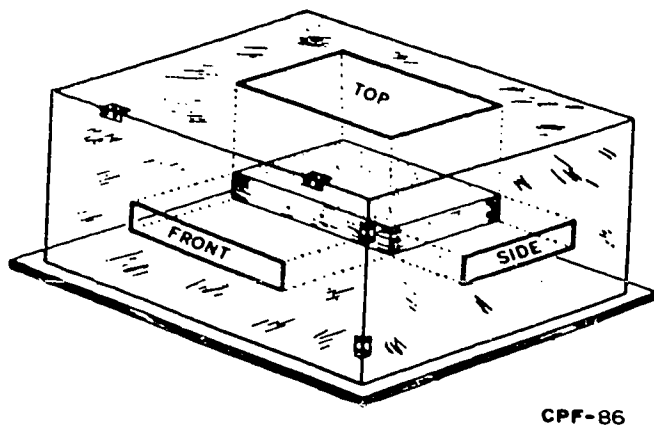
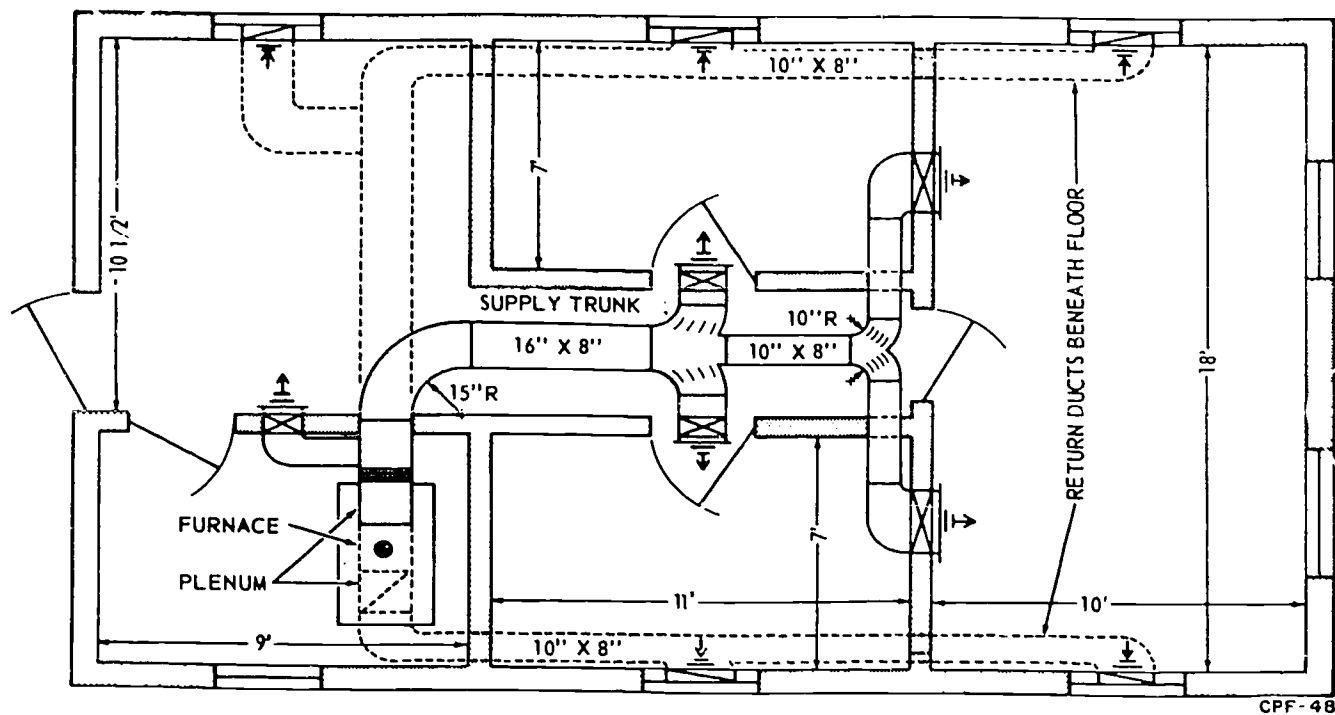
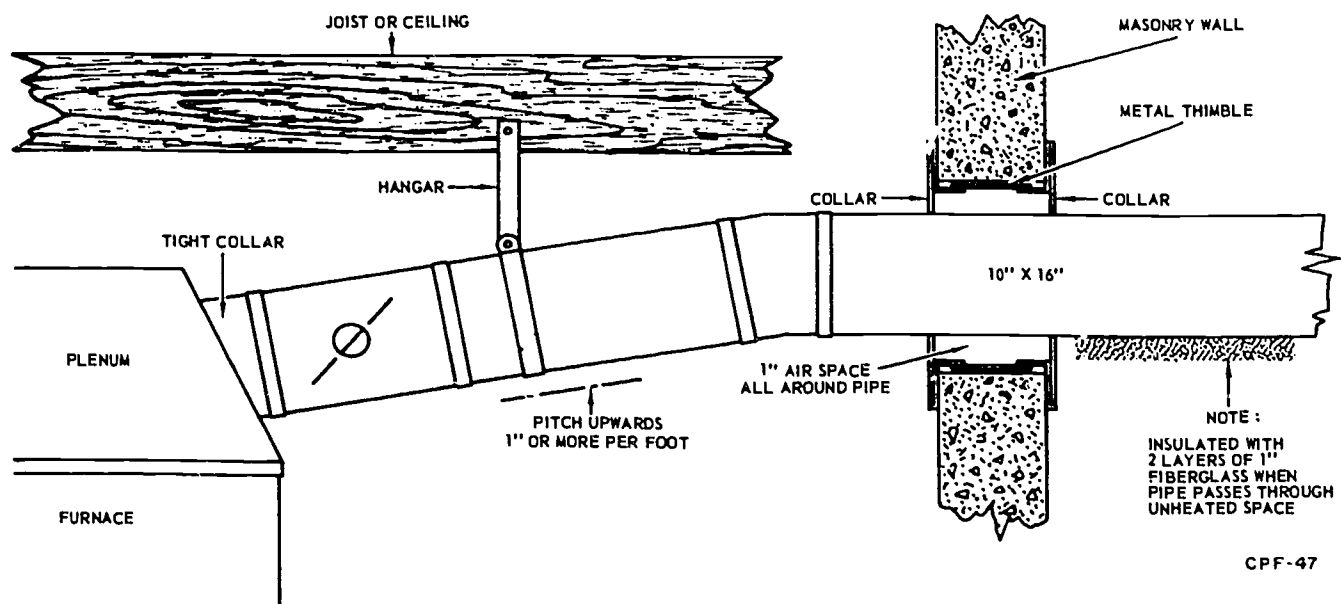

Figure 1-1. Pictorial and orthographic projection drawing.
Figure 1-3. Plan view of a duct installation.
Figure 1-4. Elevation view.
**Pictorial and Orthographic Projection Drawings.** In figure 1-1, you can see the relations of pictorial and orthographic projection drawings. A pictorial drawing is so called because it is similar to a picture.
In orthographic projection drawings, such as that illustrated in figure 1-1, three views of the object are shown. This is done to show you the three main dimensions—length, width, and thickness. The orthographic projection showing the top is called the top or plan view. It shows the part that would be seen if you were standing directly over the object and looking down at it. The orthographic projection showing the front is called the front or elevation view. It shows the part of the object that
**Plan views.** In this section, we already have mentioned plan views and have used two figures to illustrate them. In the orthographic projections shown in figures 1-1 and 1-2, the plan views show the objects as they would be seen if you were standing directly over them and looking down. This also is true of an architectural drawing, where the plan view is an overhead view of the floor plan, as shown in figure 1-3. In this plan view, you can see how a heating system is installed.
A plan view such as that illustrated in figure 1-3 includes much of the information necessary for installation of components or assemblies in a building. It shows the dimensions necessary for locating the parts with relation to other parts, and it shows room dimensions that are helpful in the various layout and installation problems. Notice, in the illustration, such information as the overall appearance of the installed duct system, the size and shape of the duct pieces, the room dimensions, the grill locations, the direction of airflow, and the location of underfloor return ducts. Now that you have looked over the drawing of the duct system, you probably are wondering about the symbols and different kinds of lines used. Later in this section, we will discuss lines and symbols; however, at this point it is more important that you learn about plan, elevation, and detail views.
**Elevation views.** In figures 1-1 and 1-2, two simple elevation views are illustrated. Now, in figure 1-4, you can see the elevation view of a furnace and supply trunk. Notice that this side view contains information that cannot be shown in a plan view. From elevation views of this type,
**Use of Dimensions.** Now that you have learned some of the dimensioning terms used on working drawings and how lines are used, let's consider how dimensions are used on working drawings. Although draftsmen do not always follow it, there is a standard procedure for placing dimensions on drawings. Learning this standard procedure will enable you to read working drawings quickly and accurately. Dimensions of rectangular ducts often are written on the working drawings, as shown in figure 1-3. Notice the section of 16" x 8" duct which is 16-inches wide and 8-inches high. If this same section of duct is shown on an elevation view, it would be marked 8" x 16".
**Scale Dimensions.** Previously, you learned how to use the architect's scale to reduce the dimensions of objects too large to be drawn full scale. Now, let's learn how to use the architect's scale to measure objects that are drawn to scale on a working drawing. For example, a working drawing such as that shown in figure 1-3 probably will be drawn  $1/4" = 1'$  scale. By using the 1/4-inch scale, you easily can determine dimensions such as the length of the duct sections and distances from the wall. If you have a working drawing of a very large building, the scale may possibly be  $1/8" = 1'$  so that the entire structure can be shown on one drawing. However, in most architectural working drawings you use, the scale will be  $1/4" = 1'$ . But, when written dimensions are included on the working drawing, as shown in figure 1-3, they should be followed in preference to using the architect's scale.
**Symbols Used on Heating and Ventilating System Drawings.** With a good working drawing and the knowledge of how to read and interpret it, you can develop patterns, fabricate components, and install entire heating and ventilating systems. Already in this chapter, you have learned how to read and interpret lines, views, and dimensions used on working drawings; and in figure 1-3, you noticed symbols used on the drawings. Now, let us examine the various symbols used for ducts, dampers, registers, grilles, and louvers.